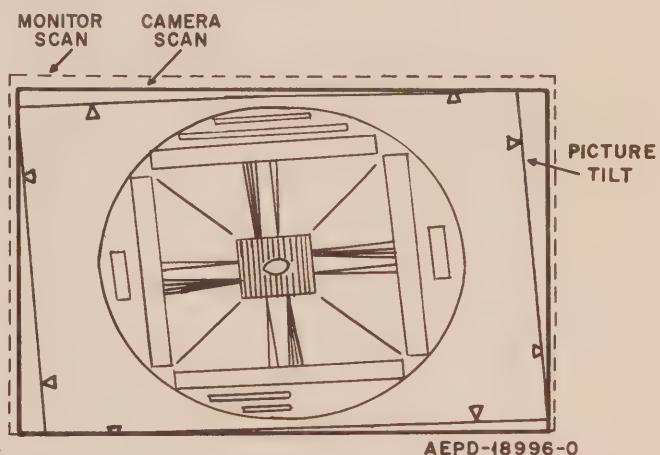

Figure 9.
- (3) Set FOCUS control to mid-range position.
- (4) Set the OFF-MAN-AUTO selector switch on the control unit to the AUTO position.
(5) Uncap the lens.
(6) Adjust the BEAM control to resolve the highlights (turn knob clockwise until the picture just appears normal).
(7) Adjust the FOCUS control for maximum picture resolution.
(8) Set the lens focus collar to the proper distance.
(9) Set the lens iris collar for the widest opening (smallest F number).
(10) Adjust the focus screw, located beneath the lens mounting plate, for best optical focus.
(11) From this point on, adjust the optical focus via the lens collar.
(12) Reduce the monitor raster using horizontal size, vertical size, and vertical linearity controls.
(13) Adjust the picture for proper horizontal size using the test pattern diagram. Refer to Figure 9.
(a) Rotate the HORIZONTAL SIZE control until the arrowheads on one side of the picture just touch the edge of the raster. Refer to Figure 9.